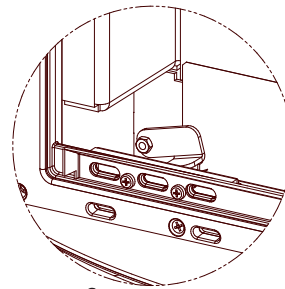

figure 11.5
- ❖ Manually rotate the 2 lockbolts, shown in figures 11.5 and 11.6, outwards.